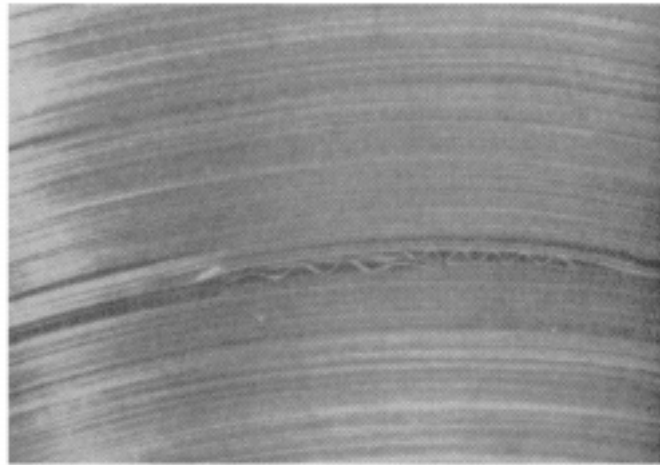

Figure 2-2.—Example of cinched tape pack.
Cinching happens when a tape reel is stopped too quickly. The sudden stop causes the outer layers of magnetic tape to continue to spin after the inner layers have stopped. This causes any loosely wound tape within the pack to unwind and pile up. Figure 2-2 shows an example of a cinched tape pack (note the complete foldover of one tape strand).
- Q-23. After rewinding a tape onto its supply reel, you examine the tape pack and notice pile-ups of tape resembling the example in figure 2-2. What causes this condition?*